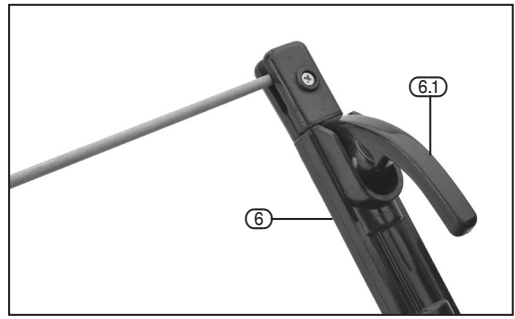

FIG. 11
8.4 MMA/ARC WELDING – FIG.11
- Insert the electrode suitable for the application into the electrode holder (6) while pressing lever (6.1).